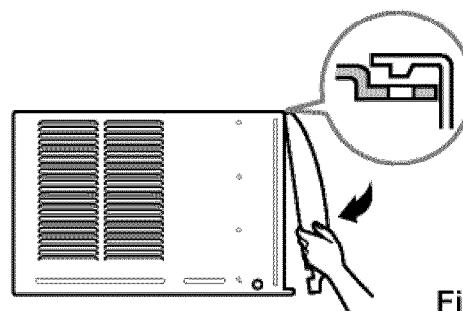

Fig. 10
- 13** Attach the front grille to the cabinet by inserting the tabs on the grille into the tabs on the front of the cabinet. Push the grille in until it snaps into place. (See Fig. 10)